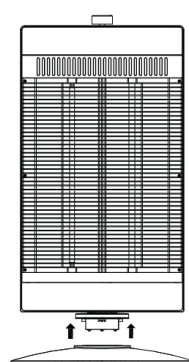

FIG. 3
3. Fix the base to the bottom of the stove (Figure 3). Pay attention to the direction of the base.